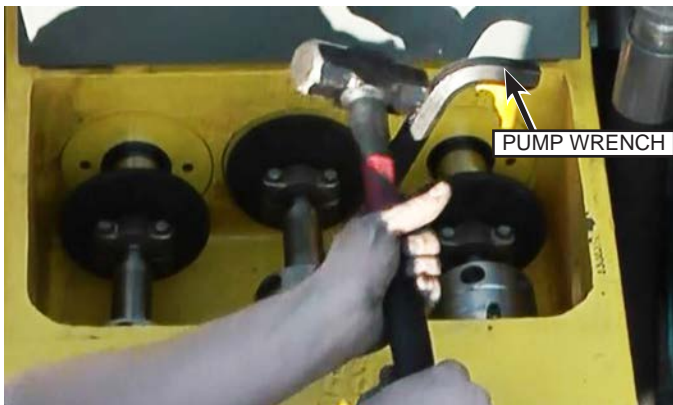

Fig. 66: Loosening Gland Nut
6. Insert the rounded end of the pump wrench (Fig. 66) into one of the holes in the gland nut and tap the top of the wrench sharply with a heavy hammer to loosen. When loose, unscrew the gland nut from the stuffing box by hand.